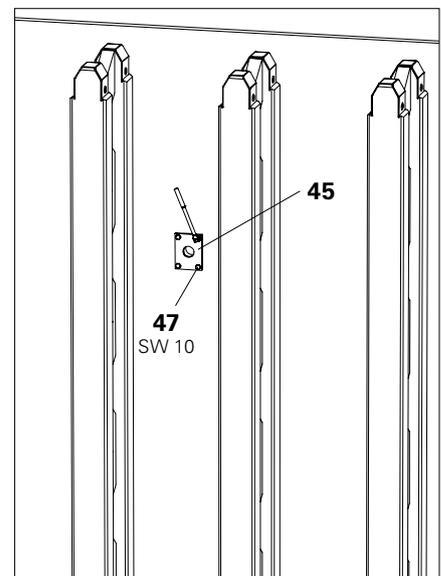

Fig. A5.08
3. Mount the Anchor Positioning Plate M24 (45) on the formlining using 4x wood screws DIN 571 6 x 20 (47). (Fig. A5.08)